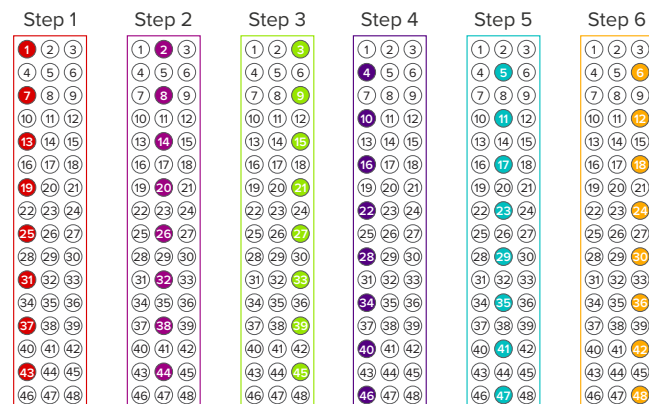

Figure 4. IFC pipetting scheme for samples and assay pools
- 4 Pipet 4.0 μ L of 20X assay pool into each of the assay inlets on the IFC. [See Figure 3 (black circles) and the IFC pipetting scheme in Figure 4.]
- 5 Pipet 4.0 μ L of sample mix into each of the sample inlets on the IFC. [See Figure 3 (dark purple circles) and the IFC pipetting scheme in Figure 4.]